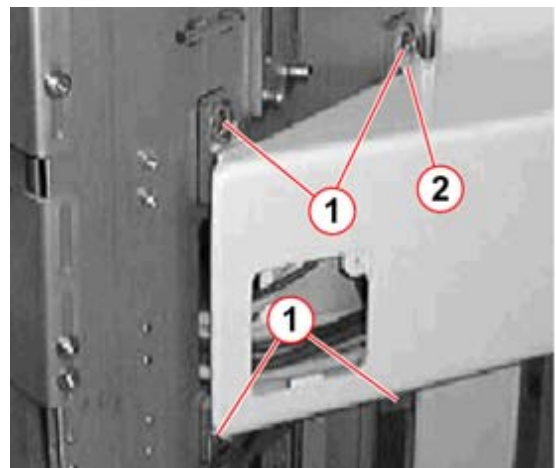

Fig. 10: Table attachment
- Remove the table mounting (1/Fig. 10 / p. 16) (4x14 mm Allen screws, a 12 mm Allen key is required). Pull the table toward the front.
One locking pin (2/Fig. 10 / p. 16) is located at each of the upper mounting points of the table.
- Attach the table with 4x14mm Allen screws (1/Fig. 10 / p. 16) to the docking plate (using a 12 mm Allen key).